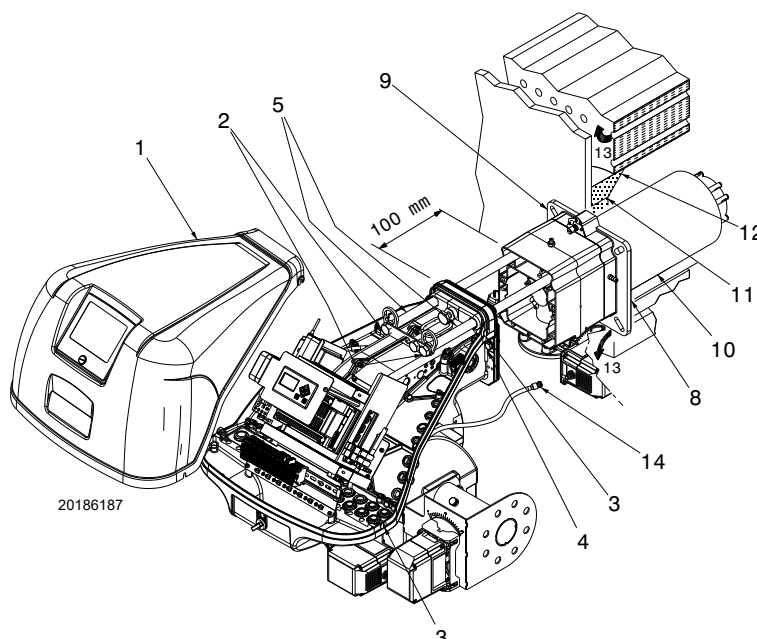

Fig. 15
For boilers with front flue passes 13)(Fig. 15 on page 17), or flame inversion chambers, a protection in refractory material 11) must be inserted between the boiler refractory 12) and the blast tube 10).
For boilers with a water-cooled frontal, a refractory cover is not necessary 11)-12)(Fig. 15 on page 17), unless expressly requested by the boiler manufacturer.
Separate the combustion head from the rest of the burner, as in Fig. 15; proceed as follows:
- reassemble the burner on the guides 3) at about 100 mm from the pipe coupling 4) - burner in the position shown in Fig. 15;
- connect the plug of the servomotor 14)(Fig. 15 on page 17);